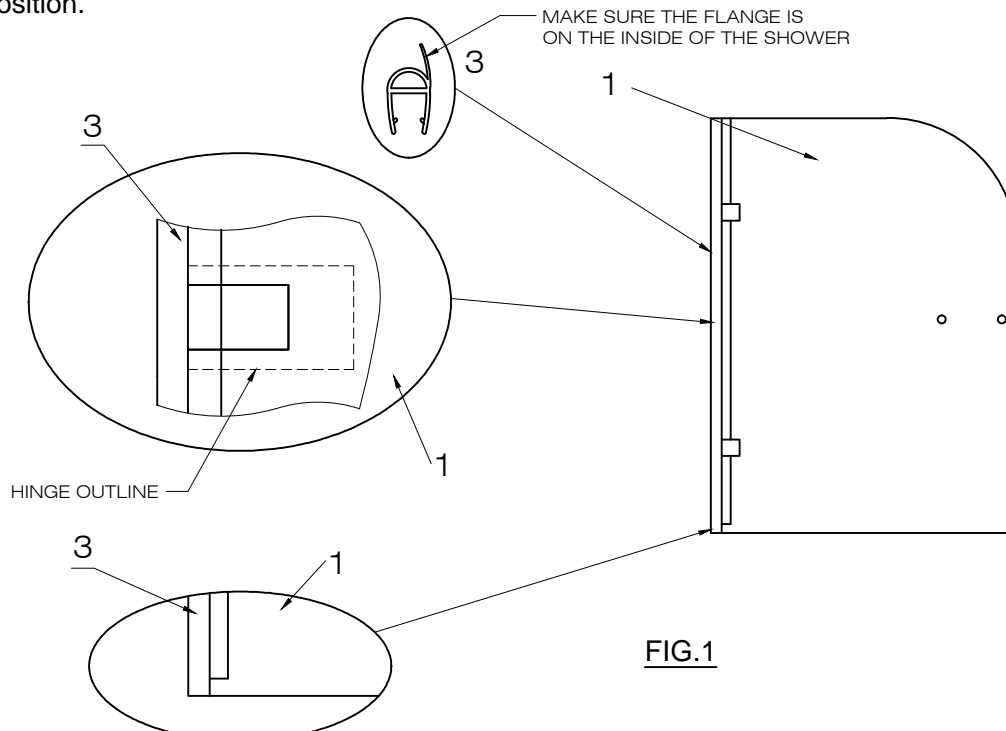

FIG.1
1. Clean all glass panel edges receiving seal strips with rubbing alcohol. [SEE FIG.1]
2. Cut seal strip (#3) according to seal strip diagram. [SEE FIG.1]
3. Install the side seal strip according to seal strip diagram, making sure that the flange is on the inside of the shower. [SEE FIG.1]